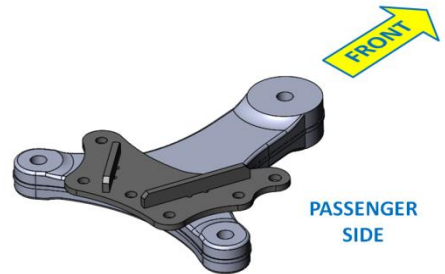

Figure 1
2. Place USI-1030 on top of the Pitman Arm with the flat side down as shown in Figure 1
1. Gain access to SAFE T PLUS[®] unit. Using a socket wrench with a 9/16-inch socket, loosen **Flanged Lock Nuts** on Tie-Rod Bracket **U-Bolts** so that **Tie-Rod Bracket** is no longer secured to the Tie-Rod. Be sure Tie-Rod can slide freely between the **U-Bolts** and **Tie-Rod Bracket** without binding (*Figure 1*).
2. After completion of vehicle alignment, ensure vehicle front wheels remain in the straight ahead position. Using a torque wrench with a 9/16-inch socket, torque **Flanged Lock Nuts** on Tie-Rod Bracket **U-Bolts** to **20 foot pounds** (*Figure 1*).